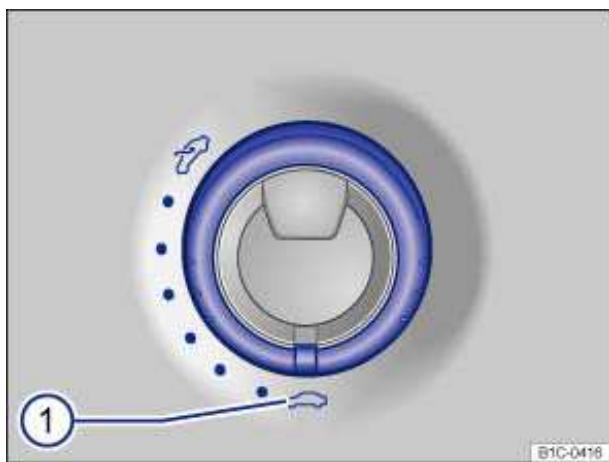

Fig. 30 In the headliner: Sunroof rotary switch.
- The switch must be rotated to the “Closed” position ⇒ fig. 30 \(1\).